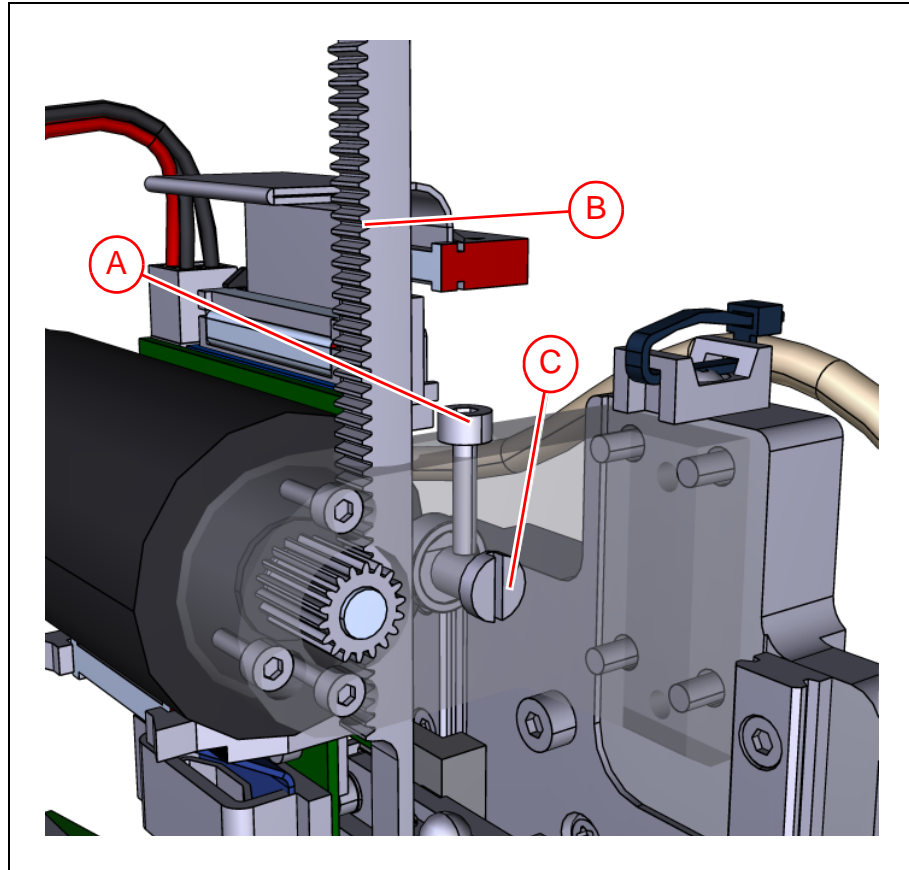

Figure 6-6. Adjusting the cog play.
1. Carefully loosen the locking screw ('A' in Figure 6-6).